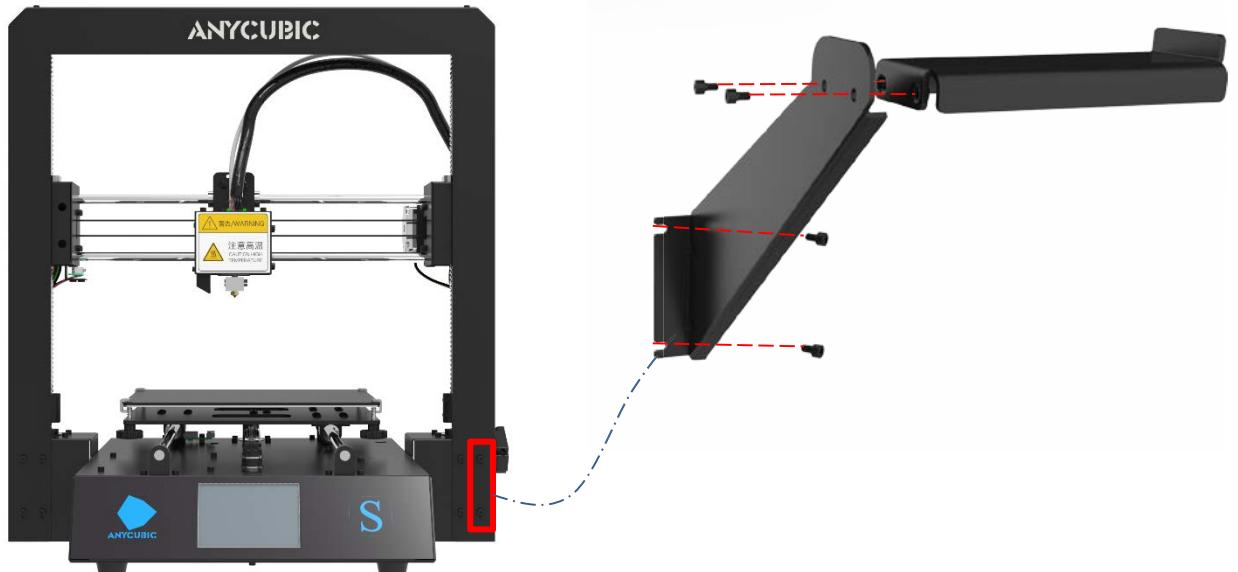

Figure 2
(2) Use two M3*5 screws to install the filament holder, then screw out two M3*5 screws that holding the frame to the base and fix the filament holder to the frame by these two M3*5 screws as shown in Fig.2.